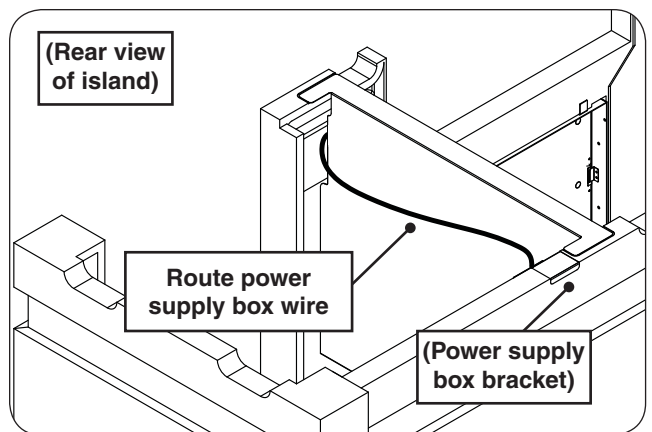

Fig. 13-3 Route power supply box wire
3. Once the box is installed, route the box wire along the heat shield and into the grill/griddle area (for future grill/griddle installation). See Fig 13-3.